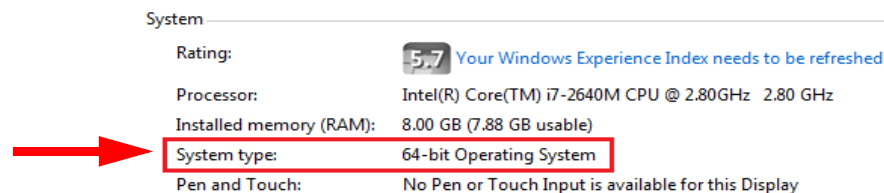

Fig. 6-1 Determine the type of operating system of connected PC
- Determine if your Operating System (OS) is *32-bit* or *64-bit*. Right click **Computer (or My PC) > Properties** (Fig. 6-1).